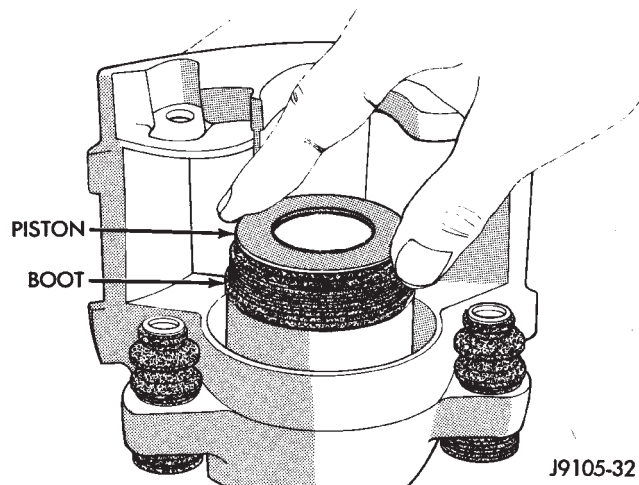

Fig. 73 Caliper Piston Installation
(6) Press piston into caliper bore by hand, use a turn and push motion to work piston into seal (Fig. 73).